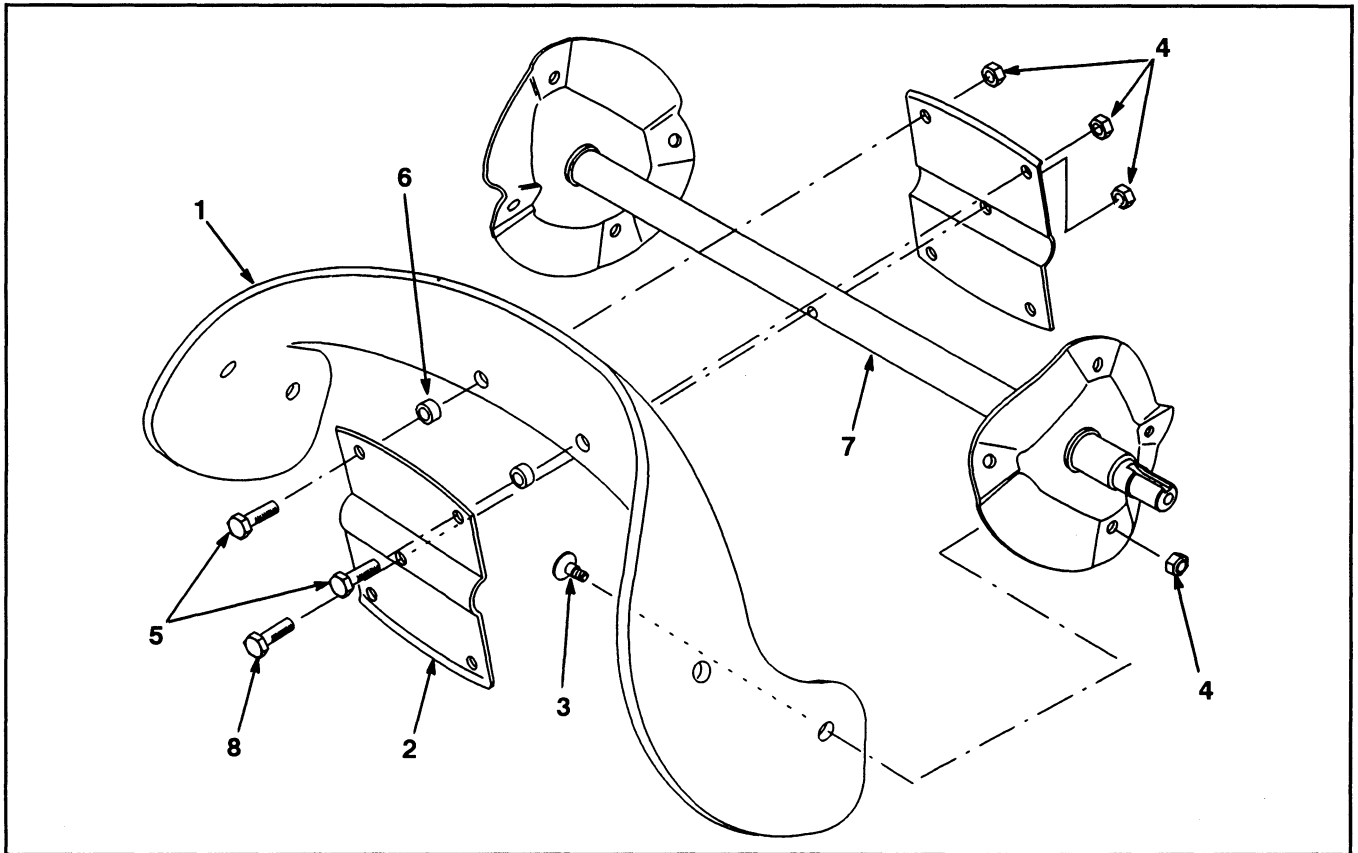

Figure 19
1. Remove (4) torx screws and (4) locknuts securing outer edges of rotor blade to rotor shaft assembly (Fig. 19).
2. Next, remove (2) hex-head capscrews, spacers and locknuts securing center of blade to steel plates (Fig. 19).
3. Loosen the hex-head screw securing the rotor halves to the auger shaft assembly (Fig. 19).
4. Slide the blade out from between the rotor halves (Fig. 19).
2. Insert the new blade between the rotor halves. Secure it to the rotor halves with (2) hex-head capscrews, (2) spacers and (2) locknuts (Fig. 19).